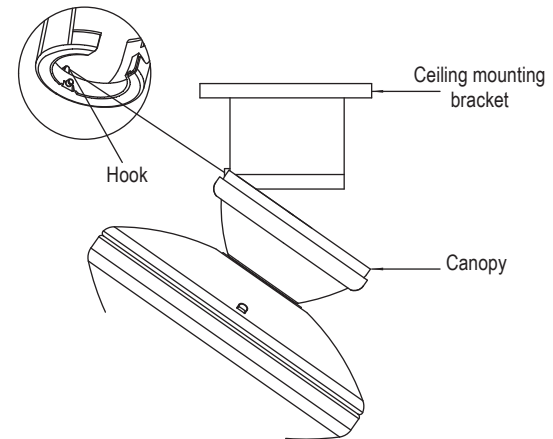

Fig. 9
**Step 6.** Hang the fan on the hook of the hanger bracket. Be certain that the canopy is fully locked into hook as shown in Fig. 9. This will allow you to make the electrical connections.